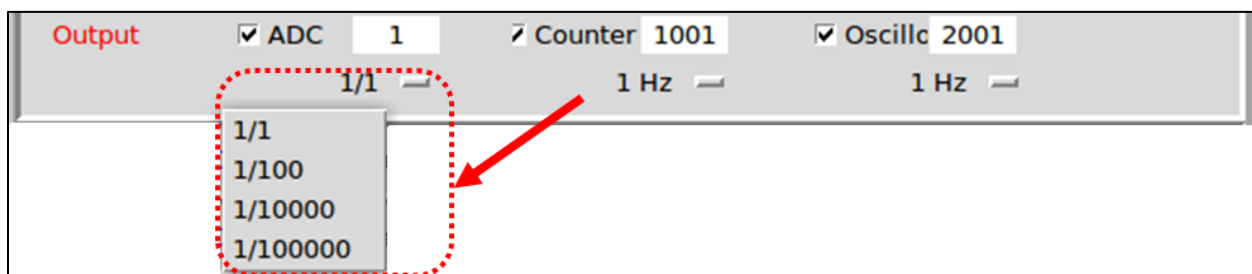

Figure 48: decimation of "ADC" data
The experimenter can store or display all "ADC" data processed by the ADC module by selecting 1/1 (cf. Figure 48). But, when the event rate is too high and saturates the FASTER acquisition, the user can choose to store a percentage of this rate: one event data every 100 event data is sent, or every 10^4 event data, or one event data every 10^5 event data. With this decimation, the acquisition efficiency can be controlled.
- **myChannel_CALC**: the number of events N_{ADC} that the ADC module has processed. At high event rate, if the “peak-hold” gate is wider than the input signal spreading of the Trigger module, this number may be less than myChannel_TRIG. This number is then multiplied by the decimation rate (cf. Figure 48):